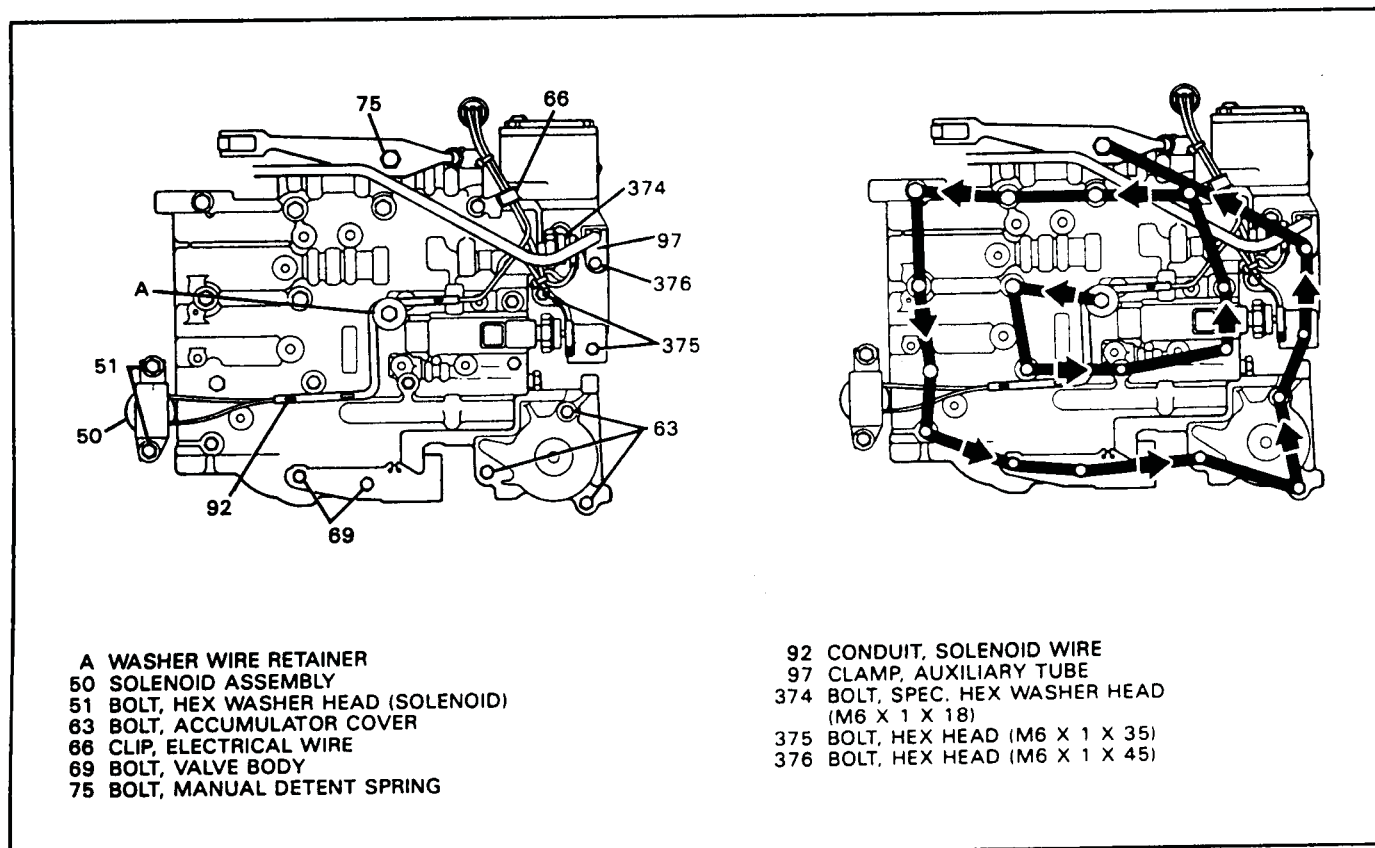

Figure 197
25. Install lock-up solenoid and wiring harness assembly, installing two bolts to retain solenoid. Refer to Figure 197.
27. Install the remaining valve body bolts and tube clamps, including the one on the auxiliary valve body, and torque all valve body bolts to 8 ft.lbs. (See Figure 197).
TORQUE VALVE BODY BOLTS IN A SPIRAL PATTERN STARTING FROM THE CENTER, AS SHOWN IN FIGURE 197.